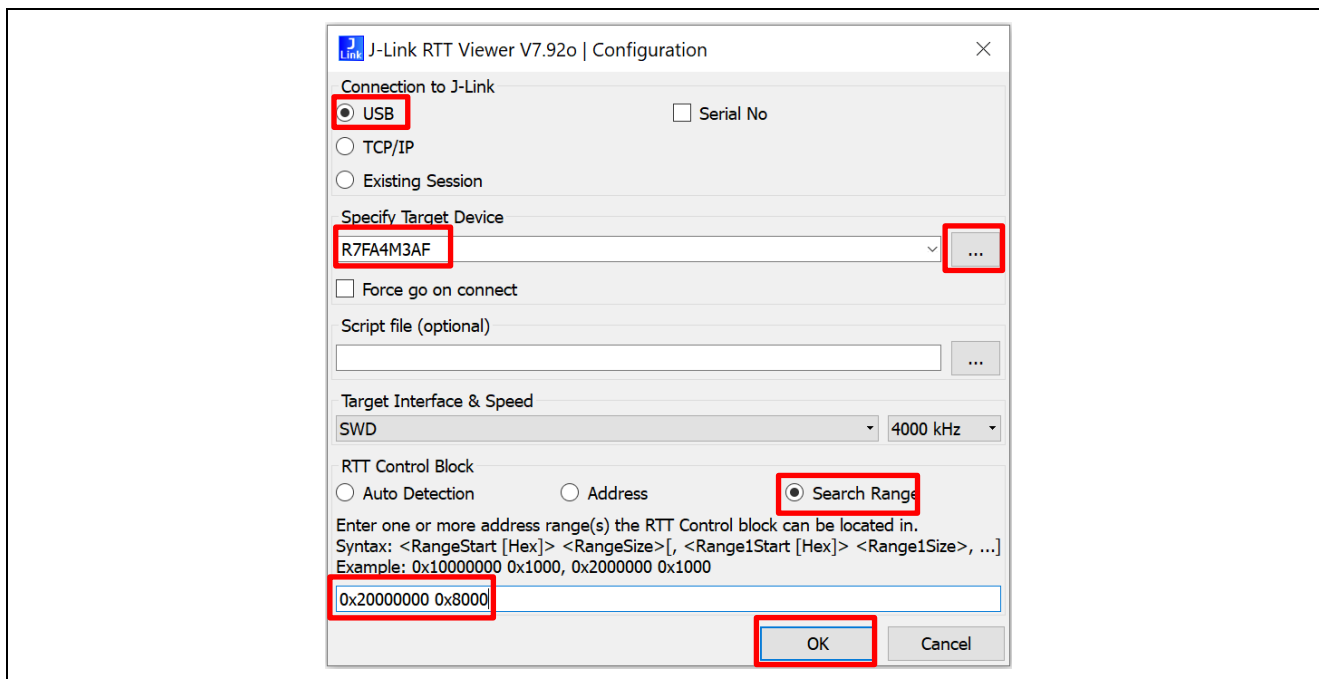

Figure 35. Configure the RTT Viewer for RA4M3 Project
4. Confirm the same configuration as shown in Figure 35, then click **OK**. The following output is printed and only the blue LED blinks.
Configure the RTT Viewer as shown in Figure 35. Observe the following output on the RTT Viewer. This output shows the Primary application is being executed and all three LEDs are blinking.
4. Confirm the same configuration as shown in Figure 35, then click **OK**. The following output is printed and only the blue LED should blink.